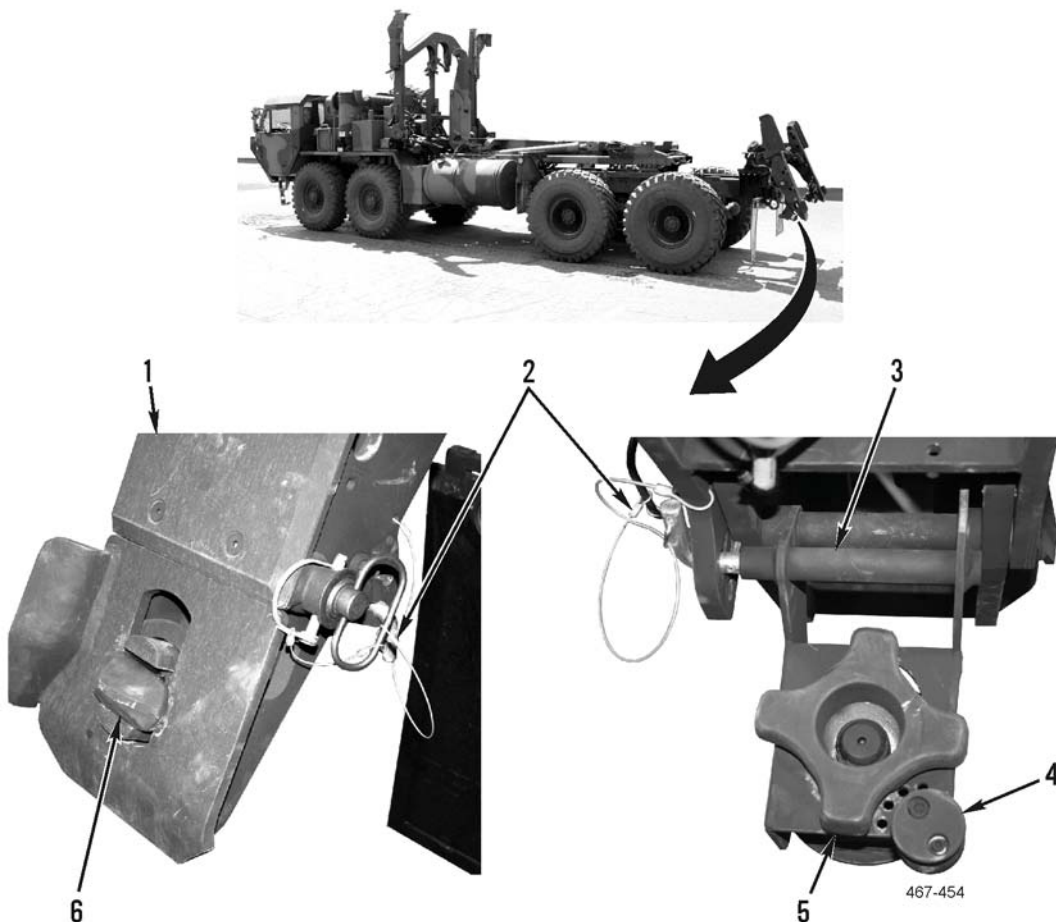

Figure 42. Release Twistlock from Housing.
1. Remove locking pin (Figure 42, Item 2) from twistlock housing (Figure 42, Item 1).
2. If required, pull down twistlock locking pin (Figure 42, Item 4) and rotate locking pin to allow movement of twistlock handle (Figure 42, Item 5).
3. Loosen twistlock handle (Figure 42, Item 5) until anvil (Figure 42, Item 6) can be positioned for removal from twistlock housing (Figure 42, Item 1), and allow twistlock assembly to swing out of twistlock housing.
4. Align locking tube (Figure 42, Item 3) with hole in twistlock housing (Figure 42, Item 1) and insert locking pin (Figure 42, Item 2) through twistlock housing into locking tube.